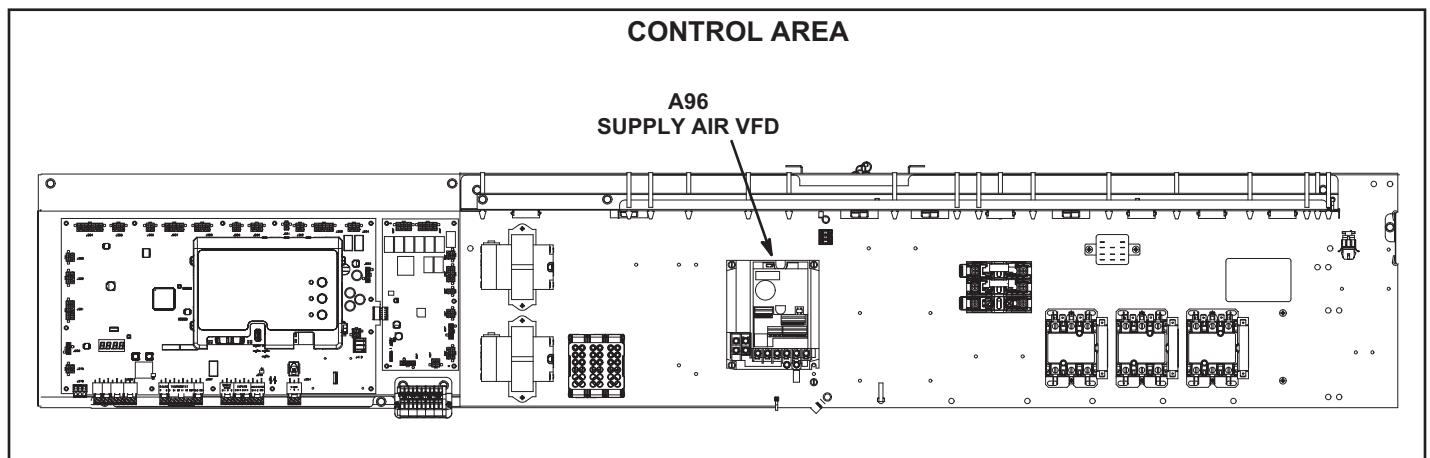

FIGURE 53
Units contain a supply air blower equipped with a variable frequency drive A96 (VFD) which varies supply air CFM. The supply air VFD (A96) is located in the control area. See FIGURE 53.
- 4 - Locate the A55 Unit Controller. Refer to FIGURE 53.